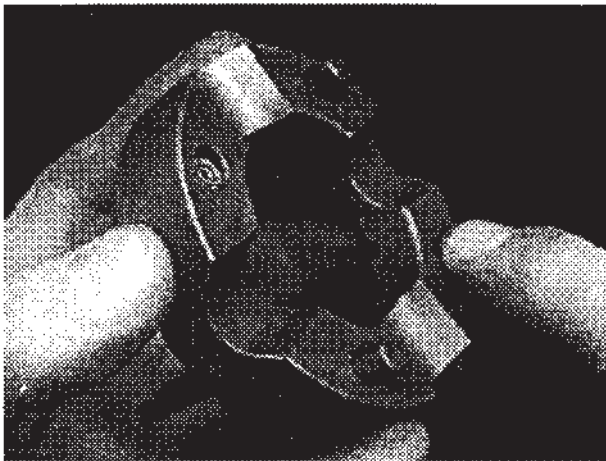

Figure 7
Coat the teeth of the drivers and both sides of the thrust washers with medium grease. Also place a little grease in each of the two window holes in each driver (**Figure 7**). The grease will help hold things in place and assist with functioning until the gear oil circulates.
5. Place a spring assembly into each hole in the other driver. Place a little more grease on top of the springs to help hold them on place (see **Figure 7**).